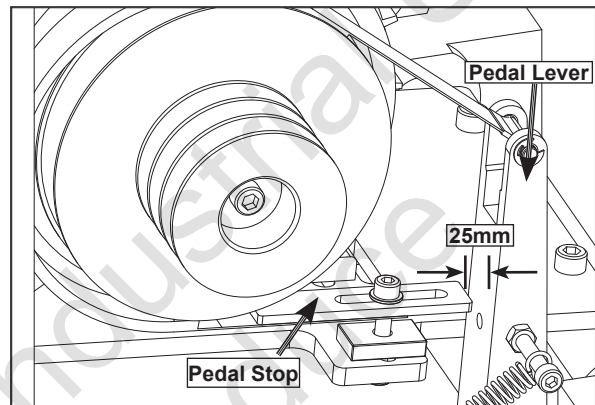

Figure 84. Pedal travel adjustment.
5. Remove pedal stop shown in Figure 84.